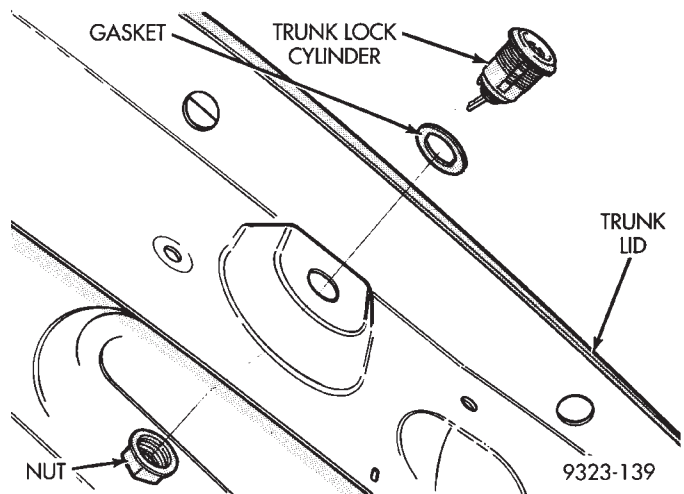

Fig. 79 Trunk Lock Cylinder
- (1) Release trunk lid latch and open trunk lid.
- (2) Remove push-in fasteners holding trunk lid lining to rear of trunk lid.
- (3) Remove push-in fasteners holding trunk lock remote adapter to trunk lid.
- (4) Remove trunk lid tail lamps. Refer to Group 8L, Lamps.
- (5) Remove nut holding lock cylinder to trunk lid (Fig. 79).
- (6) Separate lock cylinder from vehicle.